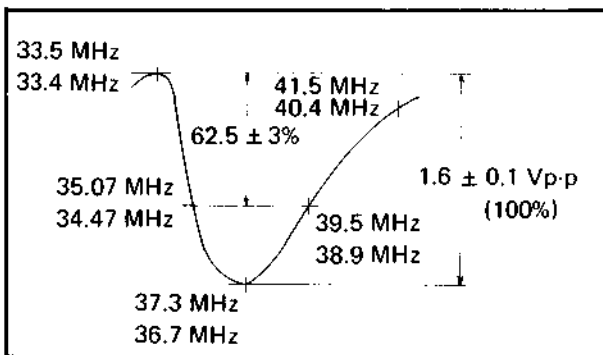

Fig. 5-45
- Make sure that the waveform looks that shown in Fig. 5-45.